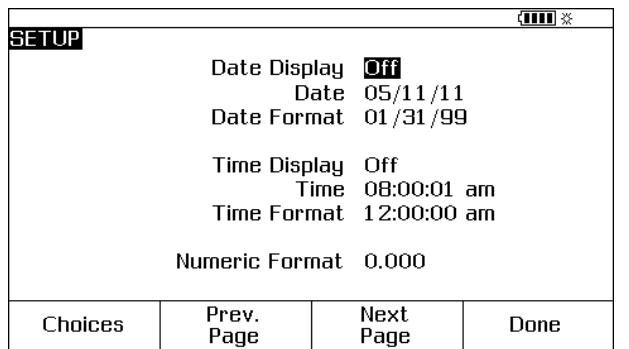

Figure 9. Time and Date Display
2. Push the **Next Page** softkey. See Figure 9.